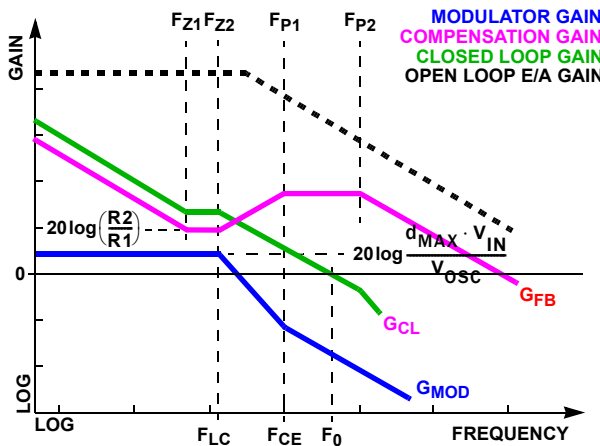

FIGURE 25. ASYMPTOTIC BODE PLOT OF CONVERTER GAIN
peak dependent on the quality factor (Q) of the output filter, which is not shown. Using the above guidelines should yield a compensation gain similar to the curve plotted. The open loop error amplifier gain bounds the compensation gain. Check the compensation gain at F_{P2} against the capabilities of the error amplifier. The closed loop gain, G_{CL} , is constructed on the log-log graph of Figure 25 by adding the modulator gain, G_{MOD} (in dB), to the feedback compensation gain, G_{FB} (in dB). This is equivalent to multiplying the modulator transfer function and the compensation transfer function and then plotting the resulting gain. A stable control loop has a gain crossing with close to a -20dB/decade slope and a phase margin greater than 45° . Include worst case component variations when determining phase margin. The mathematical model presented makes a number of approximations and is generally not accurate at frequencies approaching or exceeding half the switching frequency. When designing compensation networks, select target crossover frequencies in the range of 10% to 30% of the per-channel switching frequency, F_{SW} .